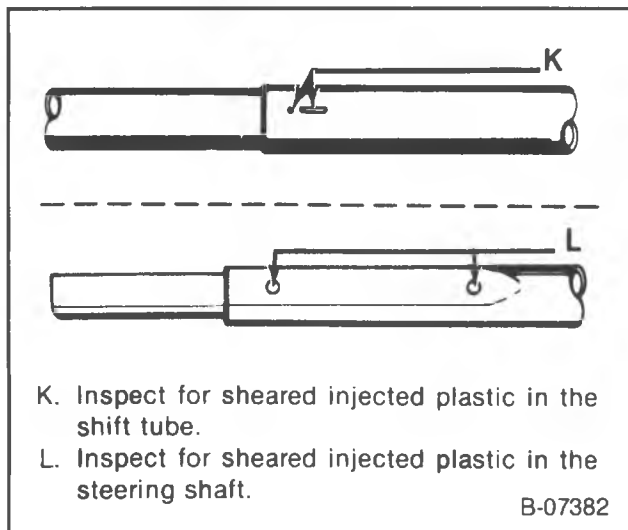

Figure 3 — Steering Column Collapse Inspection
- Visually inspect for sheared injected plastic in the shift tube and the steering shaft (figure 3). If either one or both are sheared, replace with new parts.